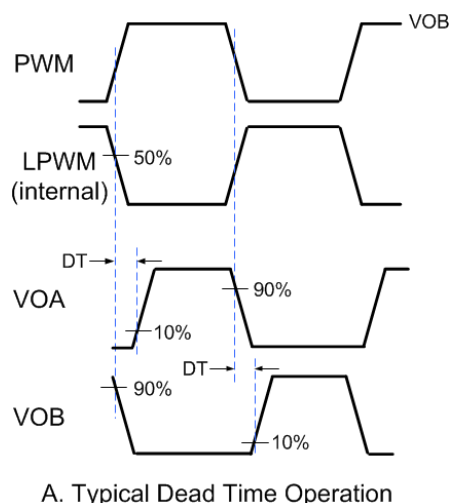
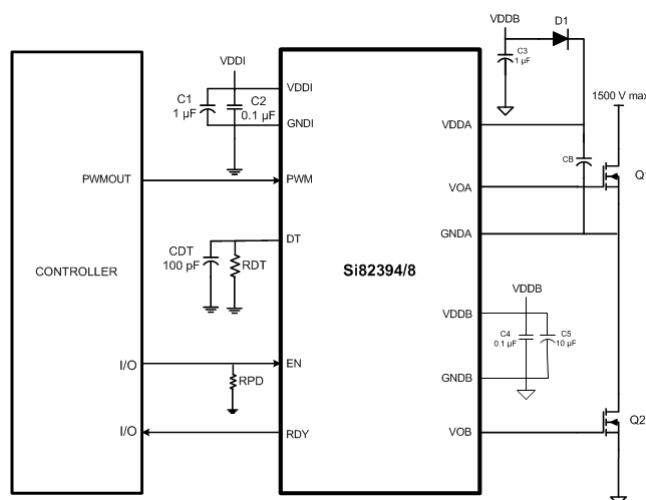

Figure 2.18. Dead Time Waveforms for High-Side/Low-Side Drivers
Figure 3.2. Si82394/8 Application Diagram
All high-side/low-side drivers with a single PWM input (Si82394/8) include programmable dead time, which adds a user-programmable delay between transitions of VOA and VOB. When enabled, dead time is present on all transitions. The amount of dead time delay (DT) is programmed by a single resistor (RDT) connected from the DT input to ground per the equation below. Note that the dead time pin should be connected to GND1 through a resistor between the values of 6 kΩ and 100 kΩ and a filter capacitor of 100 pF in parallel as shown in Figure 3.2 Si82394/8 Application Diagram on page 18. It is highly recommended it not be tied to VDDI. See Figure 2.18 Dead Time Waveforms for High-Side/Low-Side Drivers on page 17 below.